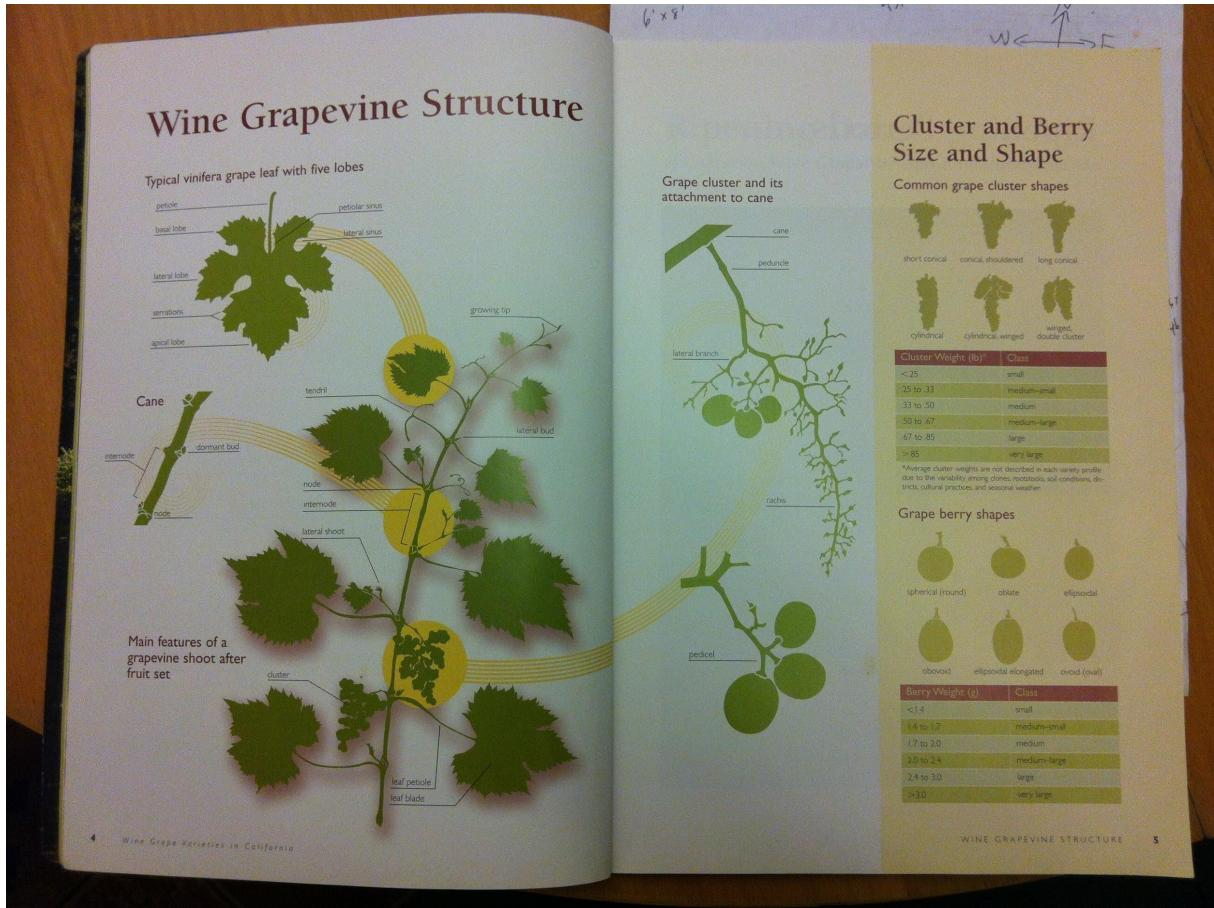

Figure 8: An informative diagram of winegrape shoot and berry structure. Source: Bettinga et al., 2003, Wine Grape Varieties in California.
- Note that in counting leaves to determine EL stage, you should count even small leaves at the very base of the shoot (see figure 6, below). However, do not count lateral shoots, which start as one leaf and grow into a separate shoot, as these will be removed later. Lateral shoots can be distinguished by the fact that they have more than one leaf (see Figure 8 above, where an emerging lateral shoot is visible in the axis of a leaf). Additionally, it may happen that more than one shoot grows from the bud on the arm. In this case, the non-dominant shoot will be removed later (the one that will not bear clusters).